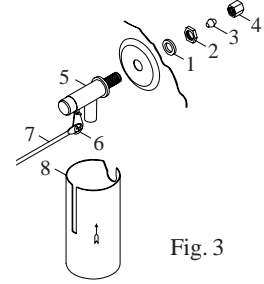

Fig. 3
• **Install float valve and fill pan.** Refer to Fig. 3. Remove items 1, 2, 3, and 4. Insert float body (5) through hole in back post panel as shown. Install washer (1) and nut (2). Tighten to keep float from turning. Place nut (4) and ferrule (3) on water supply line. Connect to float fitting and tighten until water tight. Loosen screw (6) and adjust rod (7) until water level is within 1" of top of reservoir. Tighten screw (6). Slide float shield (8) up over float body (5) until it snaps into place.